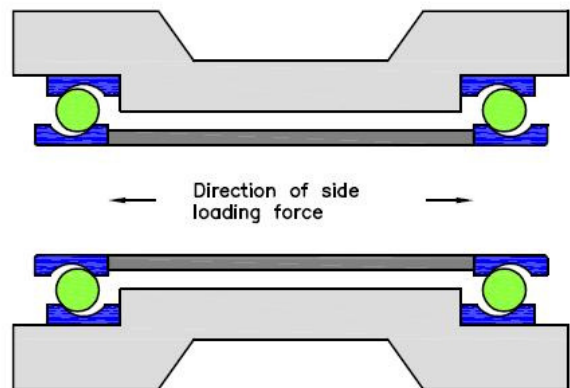

FIG 3 INCORRECT INSTALLATION
**A lose or worn center spacer can cause the bearing to be side loaded in the opposite direction after the axel is torqued down. See fig 3**